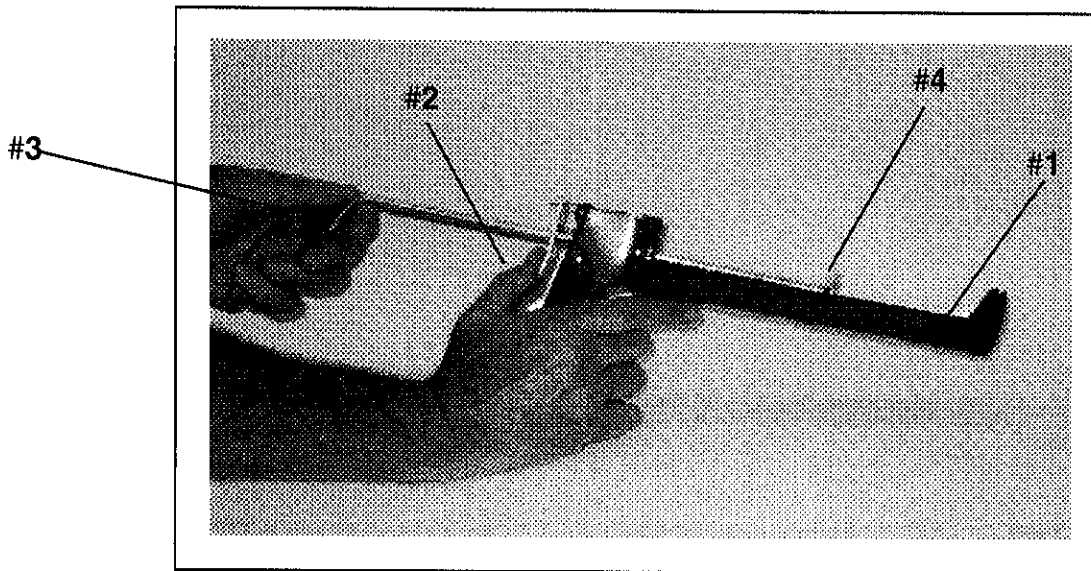

Figure 1
1. Place Standard Caulking Tube (not shown) in Blue Caulking Gun (#1) with Steel Rod (#3) and Pressure Plate (#4) retracted. To retract, use thumb to release. Press Release Lever (#2) to slide back Steel Rod (#3) and Pressure Plate (#4). See Figure 1